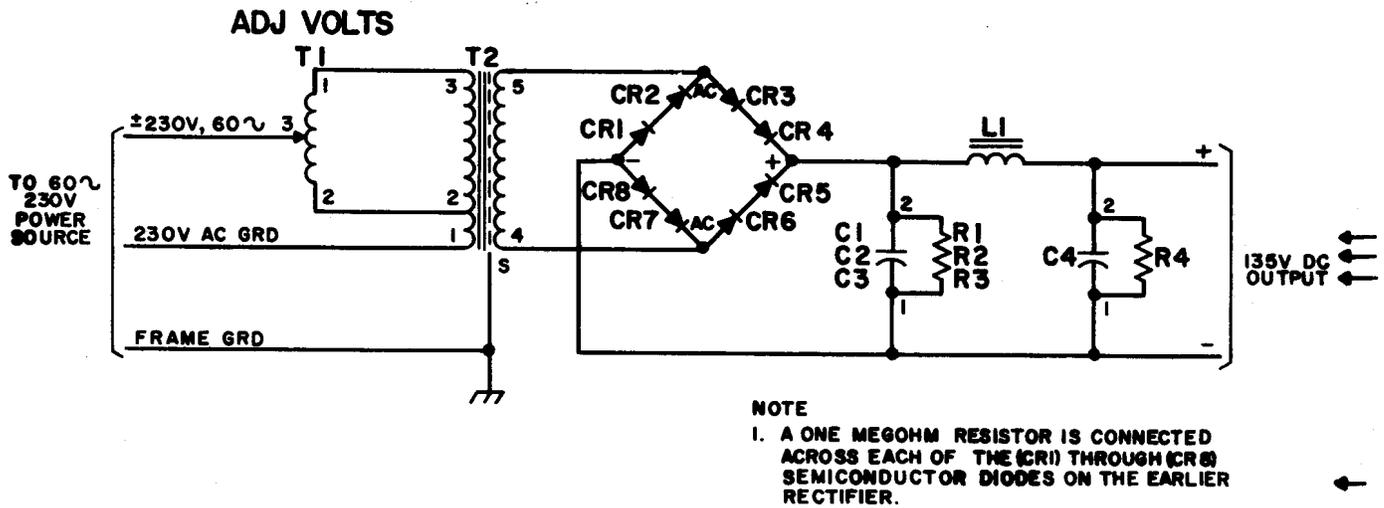
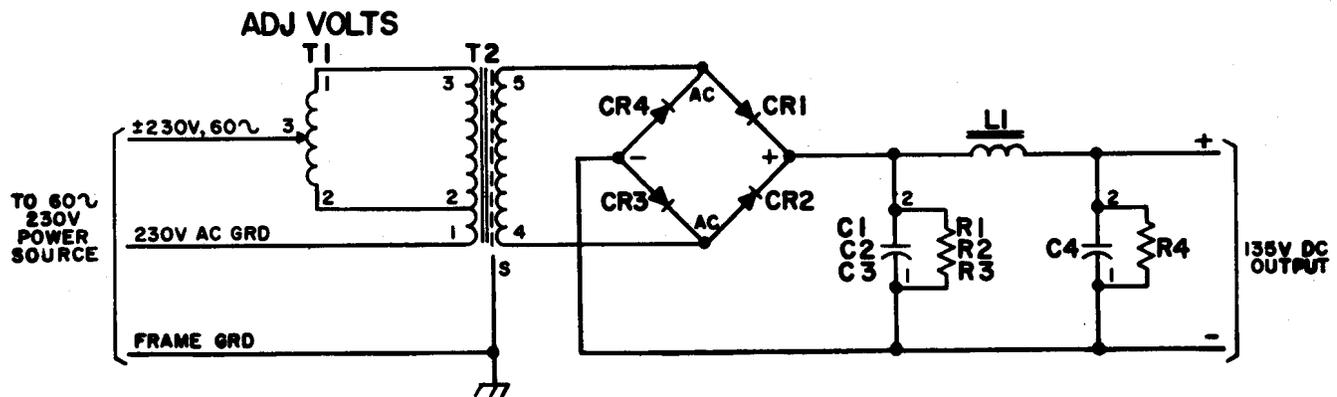

Fig. 1 - Simplified Schematic J86278B, List 1 Rectifier
Fig. 2 - Simplified Schematic J86278B, List 2 Rectifier
- 1.02 This section is reissued to change the title, to describe the operation of the J86278B, List 2 rectifier, to revise Fig. 1, and to add Fig. 2.
- How the Rectifier Works (See Fig. 1 and 2) ←
Fig. 1 and 2